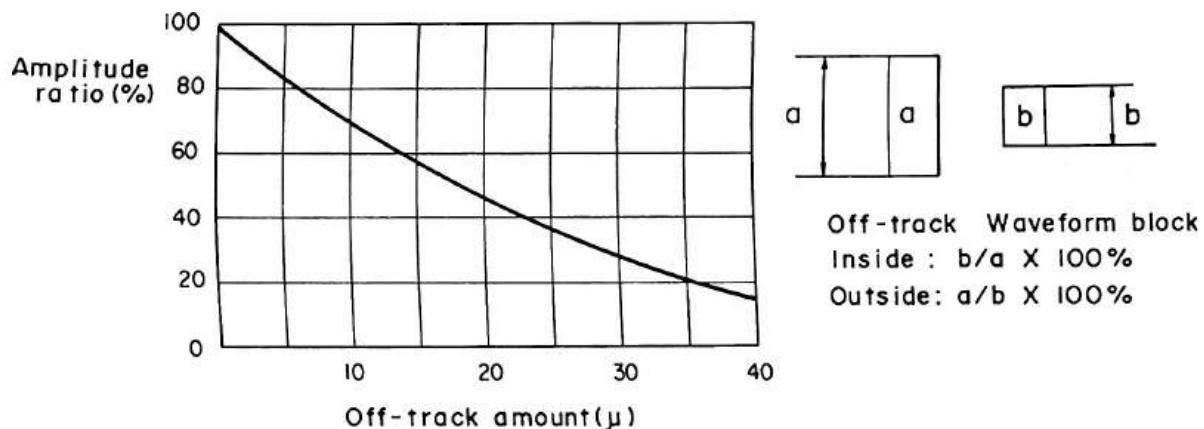

Fig. 4
- 5) Determine the output ratio in one block of the servo pattern waveform, and obtain the off-track amount from Fig 4. At this time, make sure the off-track amount is within  $2 \mu$ m; otherwise, adjust as follows.